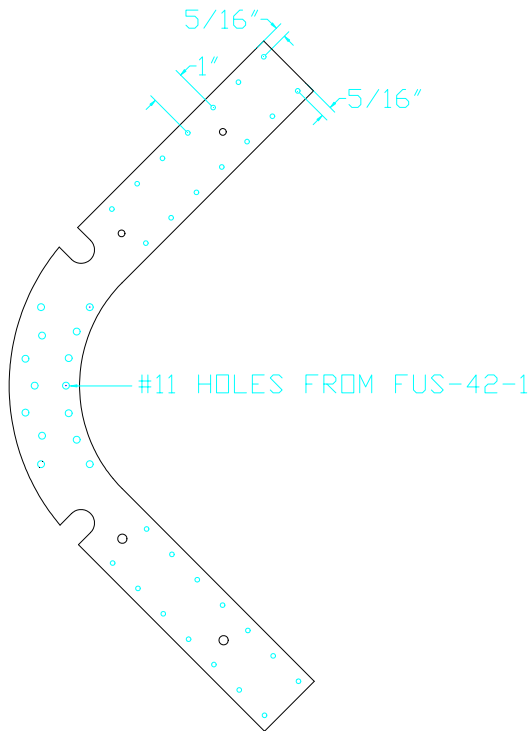

Figure 9.16.3
- 8) Layout and drill a series of rivet holes with a 1” spacing through the FUS-448 doubler. Drill #30 and debur. See figure 9.16.3 for details.